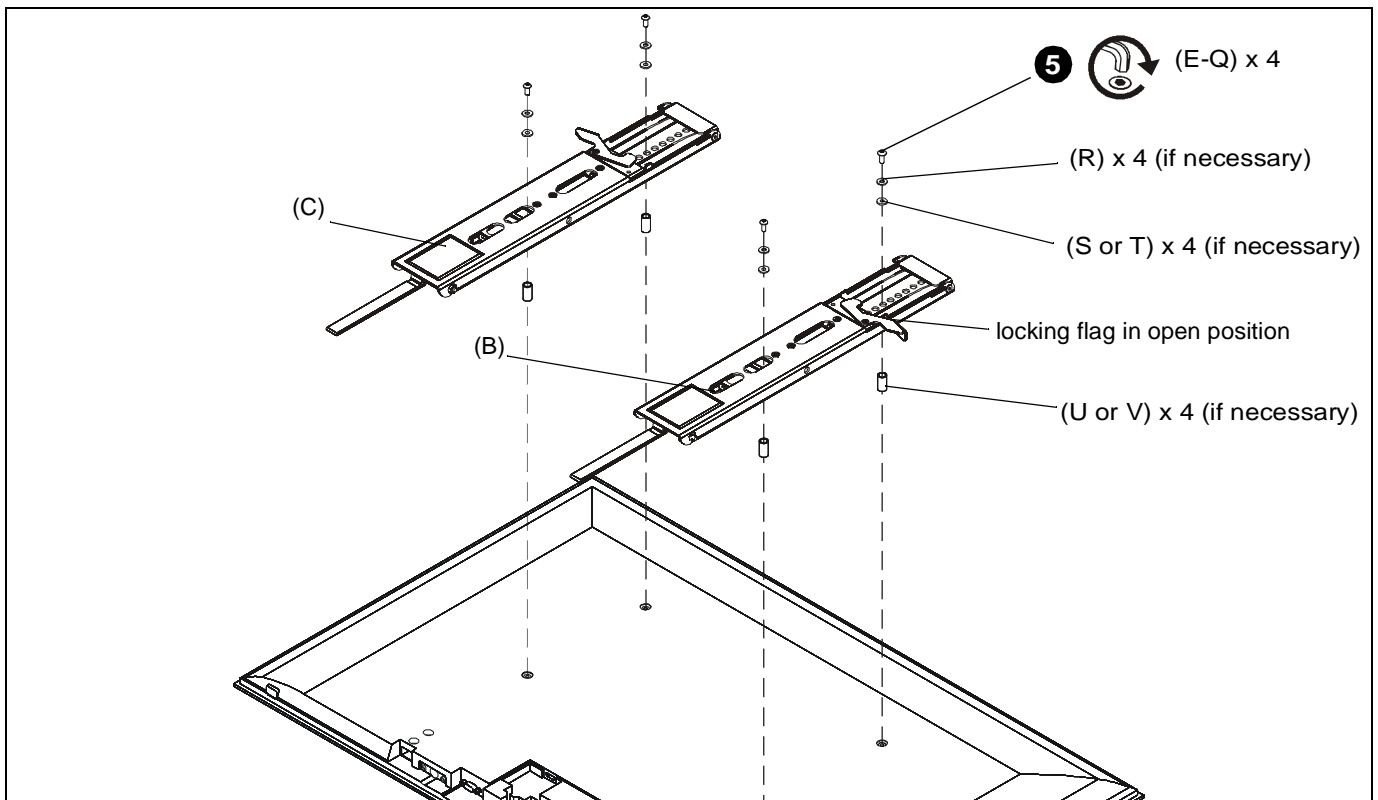

Figure 4
2. Position left and right interface brackets (B and C) over holes in back of display to determine which holes will be used for installation. (See Figure 4)
5. Install four button head cap screws (E-Q) through required washers (R) and spacers (S or T), interface brackets (B and C), spacers (U or V) and into holes on back of display. (See Figure 4)
NOTE: Make sure locking flags are in the open position before attaching display to wall plate. Flags are shown in the open position in Figure 4.